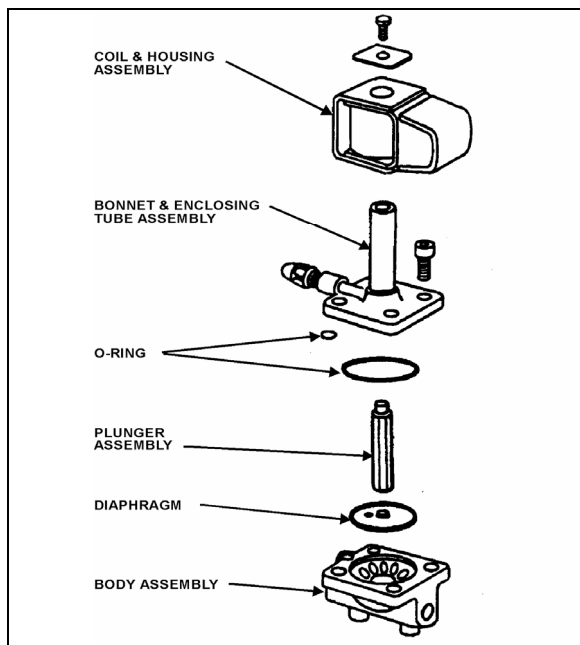

FIGURE 34: REFRIGERANT SOLENOID VALVE
3. Remove the four socket head screws which hold the body and bonnet together (Fig. 34).